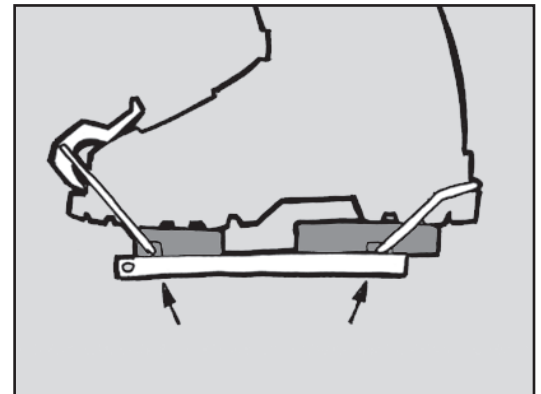

Figure 1
- 1.) With the Voilé Slider Tracks installed on your splitboard in ride mode, position the boot centered over the Slider Track. With the wire toe and the heel bails attached to the toe and heel blocks, position the blocks under the boot keeping the boot centered over the Slider Track. (See Figure 1)